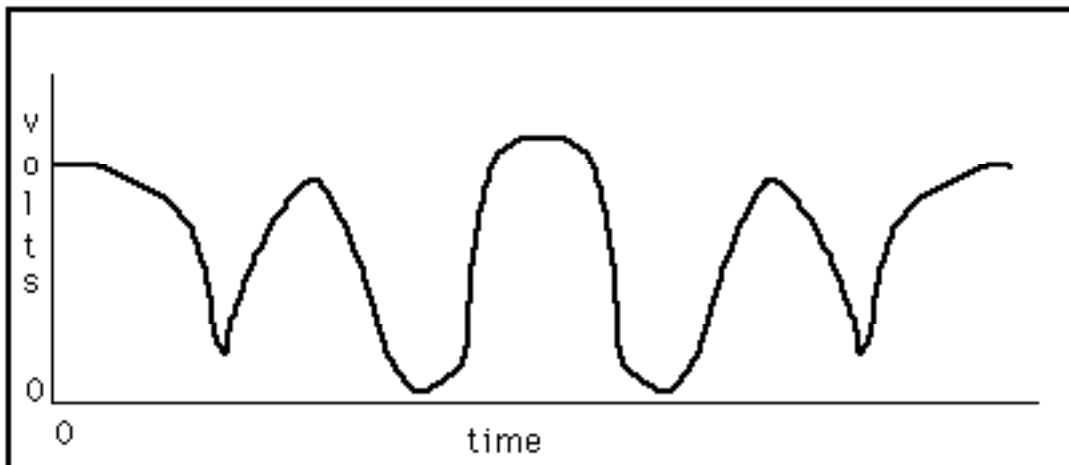

Figure 1: Simple analog wave starting at time zero.
The conversion of sound, which is an analog wave, to a digital sequence is called (you guessed it) analog to digital conversion (A to D). See Figures 1 and 2. A to D conversion is done by taking a reference point on the analog wave, usually the lowest point and calling it zero (0). The highest point on the wave is assigned a number, for example 255 (you'll see later why I choose that number). This assignment from high to low gives the computer the ability to recognize 256 different values.